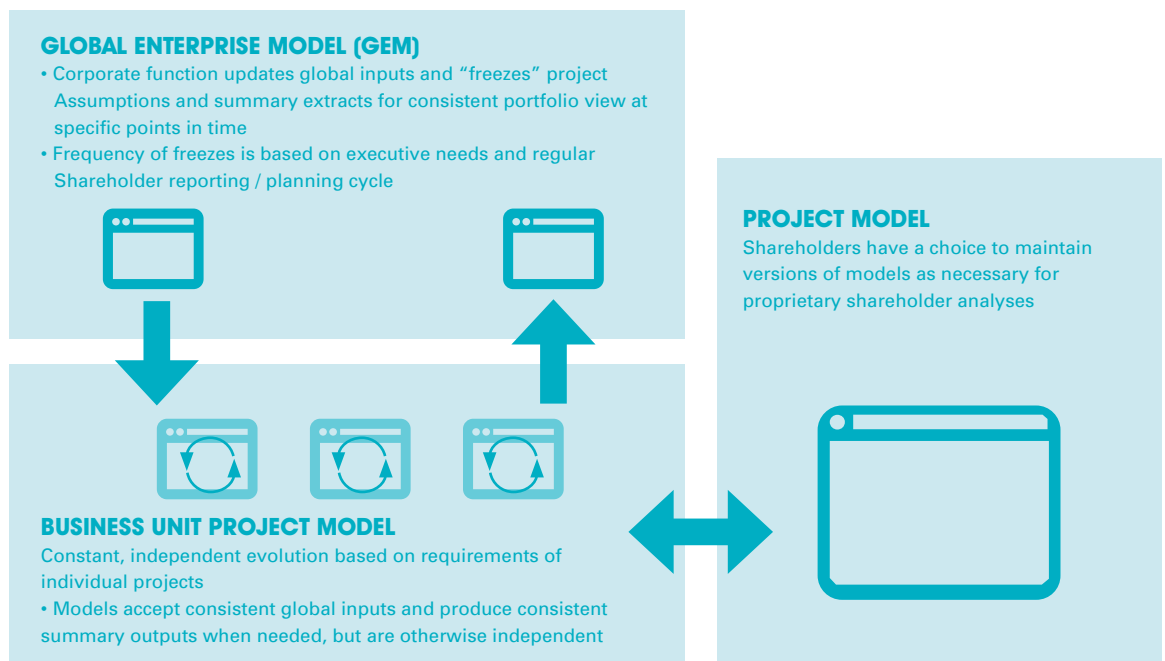

Figure 1 – Number of model versions
6. There may be multiple models in place. For example, you may have a single project model, most likely simple and deterministic, that all parties use at management meetings. Your company may have its own model at the business unit level which contains proprietary price forecasts and additional cost / revenue assumptions. This model is primarily a probabilistic model that can be used for Monte Carlo analysis. Lastly there may be the corporate portfolio. *This is illustrated in Figure 1 below.*